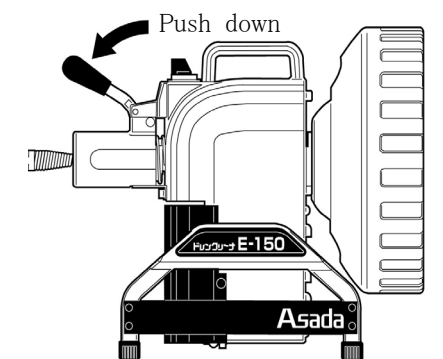
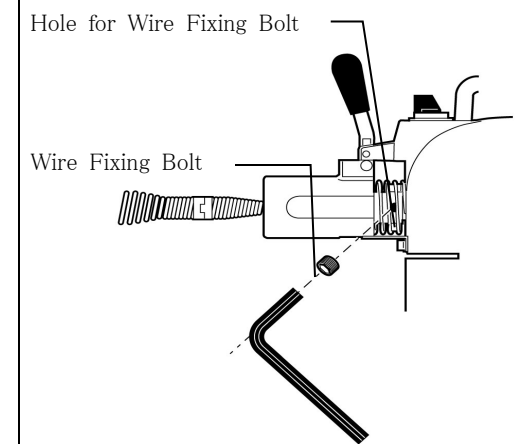

Fig.2
Fig.3
### ②Insert Wire to the pipe slowly and when Head reaches the blockage or Head cannot be inserted due to an acute bend of the pipe, push down Chuck Knob to hold Wire.(Fig.2)
③Switch on the machine to rotate Wire and pass through it. Normally turn the switch to 1.(Turn the switch to 2 when Bulb Head Wire is used.)
④In case of heavy blockage, repeat to move Wire forward and backward with rotating wire clockwise and counterclockwise. Do not change the direction of rotation until the motor stops.
⑤If Wire cannot be held firmly by Chuck Knob, it should be held by the attached Wire Fixing Bolt.(Fig.3)
⑥After cleaning the pipe, wash Wire with water, apply anticorrosive oil and pull back Wire into Wire Case. (Optional Accessory : Rowonal R72142)